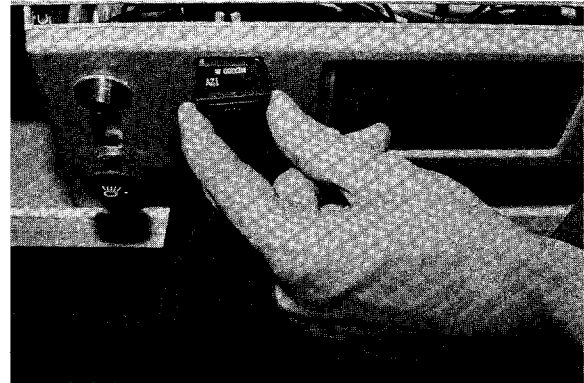

Figure 5-38
6. Grasp the oil light assembly, compressing the two plastic lock tabs on unit, and push unit through dash (Figure 5-38).